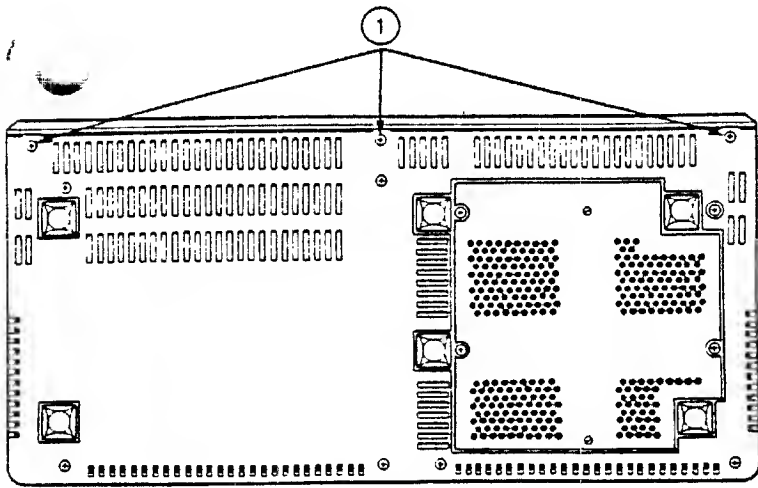

FIGURE 2
2. Turn the ProFile over, lay it on the protective pad, and remove the three Phillips-head screws from beneath the front panel (Figure 2, #1).
3. Turn the ProFile over and replace the three screws on the front edge (Fig. 2).